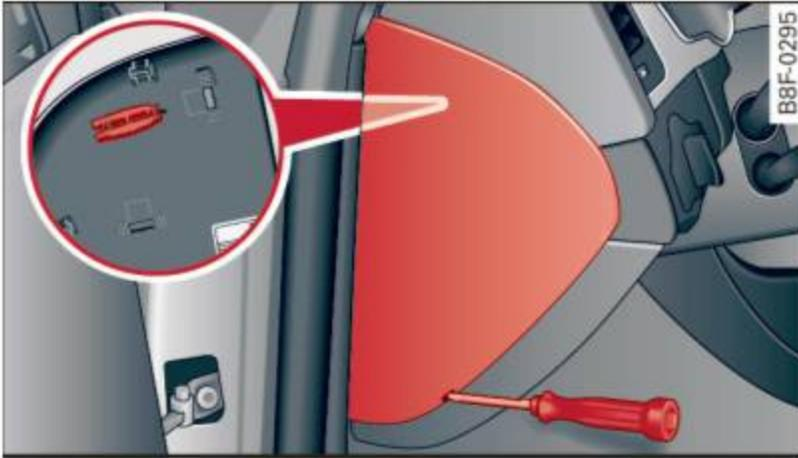

Fig. 209 Left cockpit: fuse panel cover
- ▶ Remove the appropriate cover ⇒ *fig. 209* or ⇒ *page 218, fig. 180*.
- ▶ Remove the clamp from the rear side of the fuse cover ⇒ *fig. 209*.